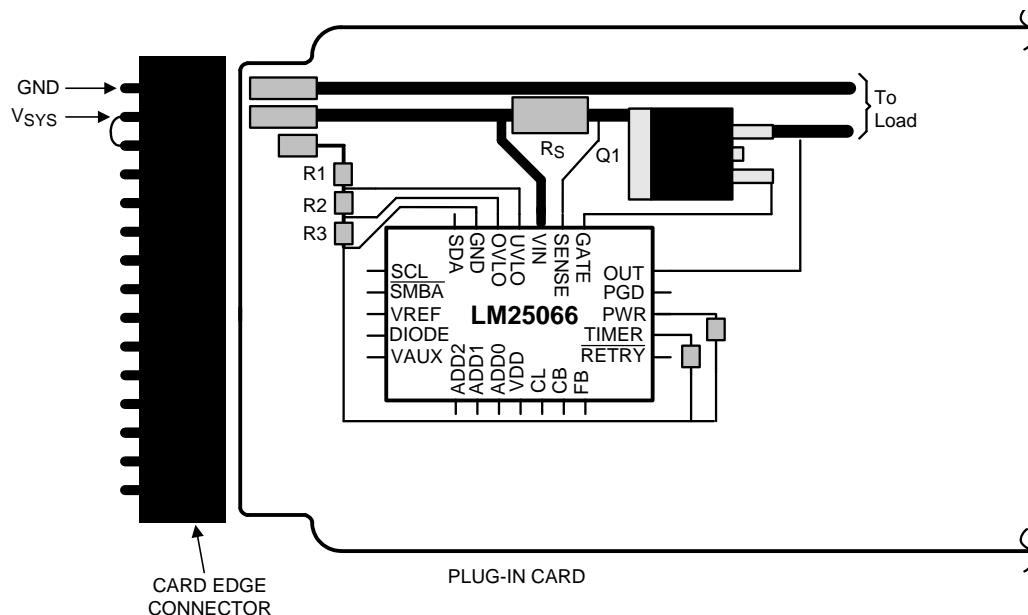

Figure 49. Recommended Board Connector Design
- The board's edge connector can be designed such that the LM25066 detects via the UVLO/EN pin that the board is being removed and responds by turning off the load before the supply voltage is disconnected. For example, in Figure 49, the voltage at the UVLO/EN pin goes to ground before V_{SYS} is removed from the LM25066 because of the shorter edge connector pin. When the board is inserted into the edge connector, the system voltage is applied to the LM25066's VIN pin before the UVLO voltage is taken high, thereby allowing the LM25066 to turn on the output in a controlled fashion.